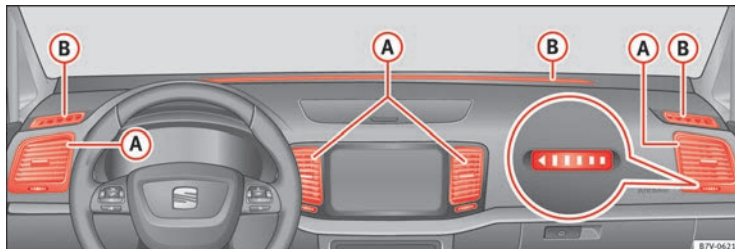

Fig. 126 Air vents in the dash panel
Never close the air vents ⇒ Fig. 126 (A) completely to ensure heating, cooling and ventilation inside the vehicle.